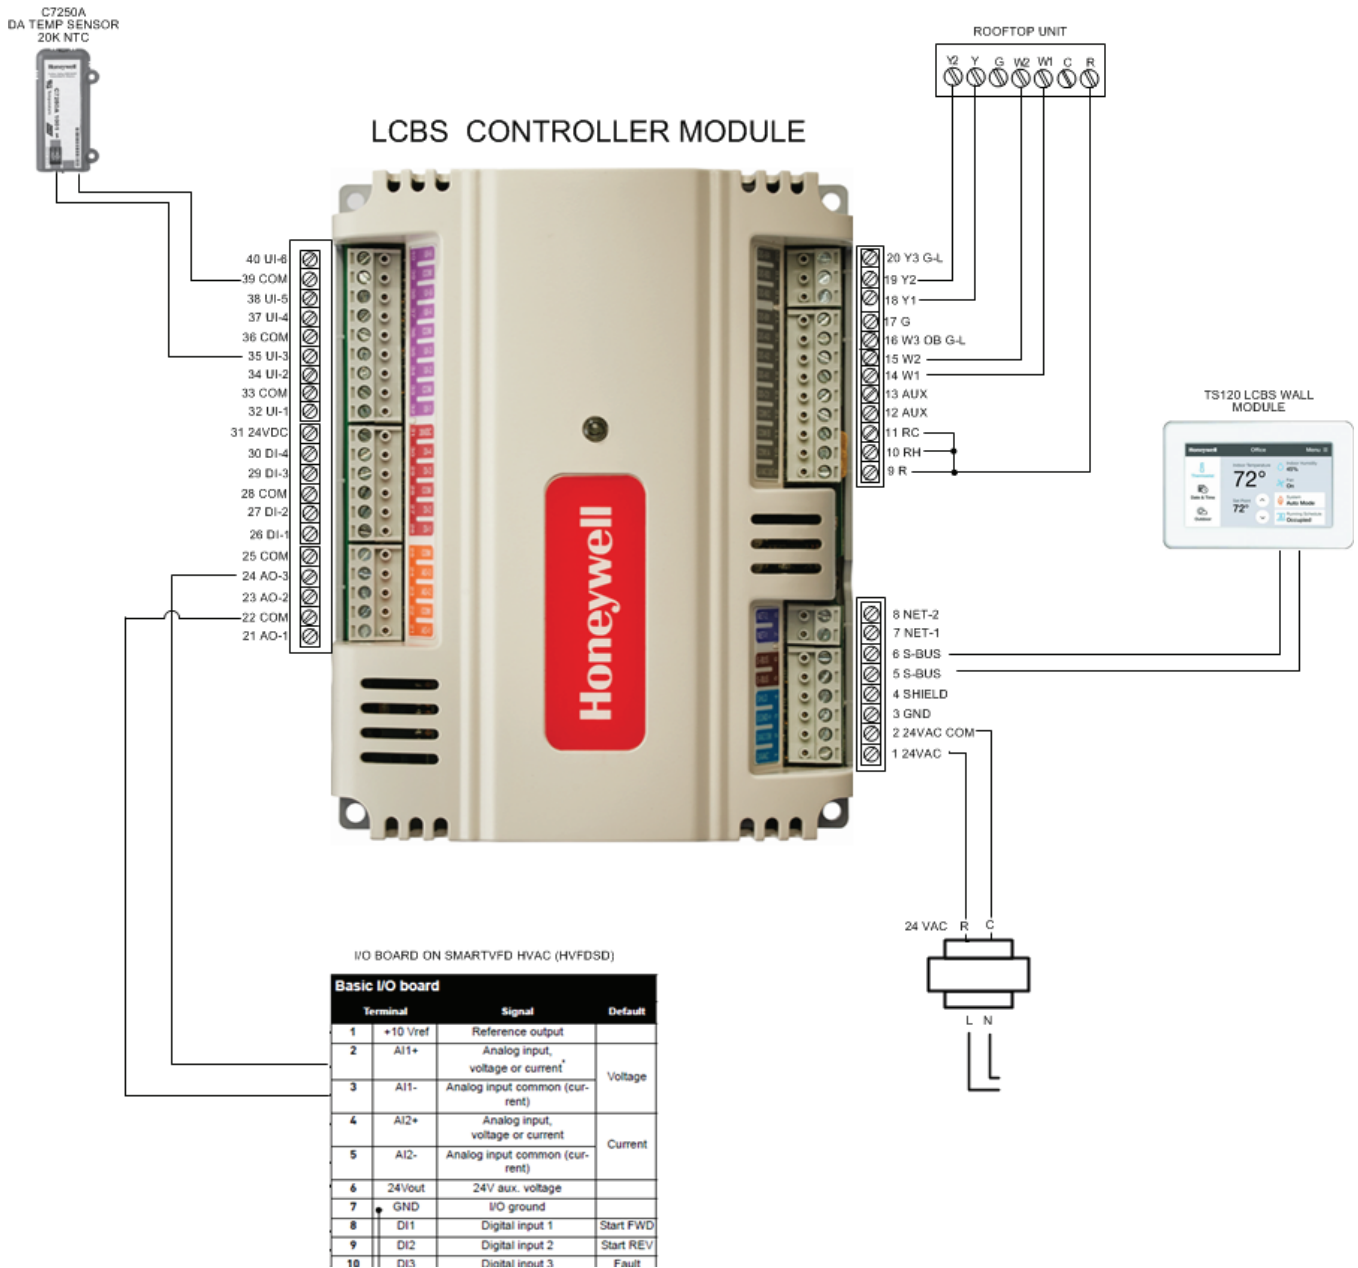
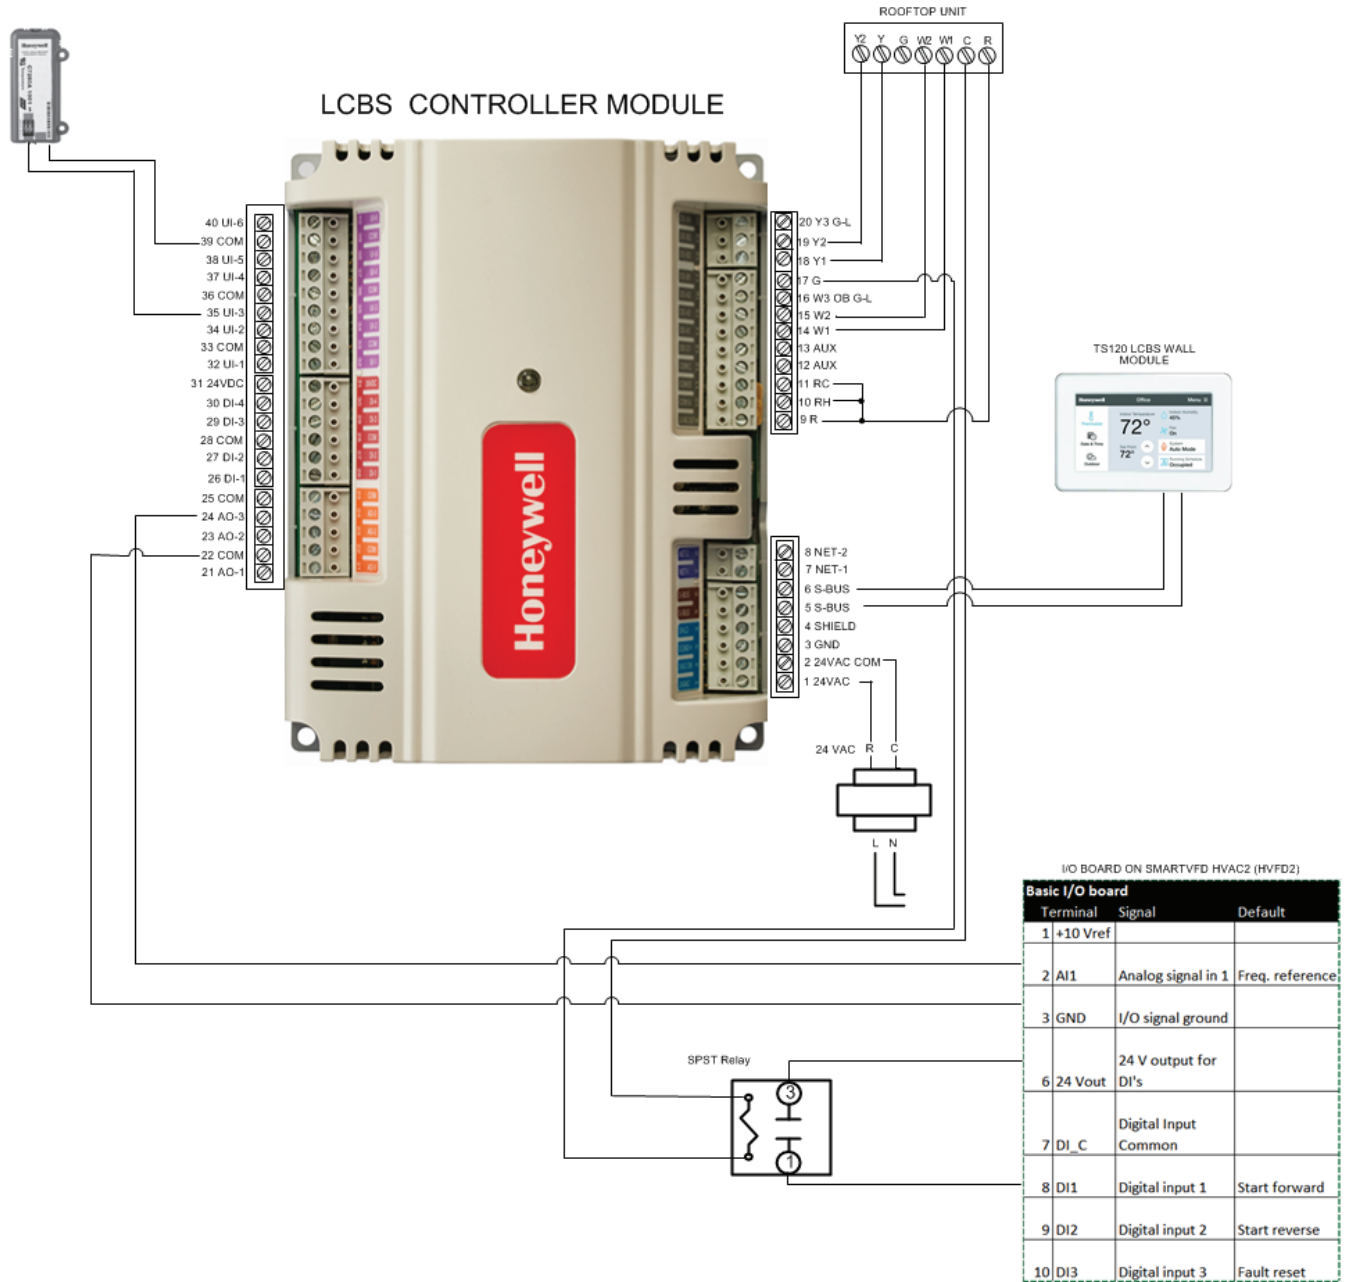

Fig. 2. LCBS with SmartVDF HVAC for Multi-Speed Fan Control (option 2)
Fig. 3. LCBS with SmartVFD HVAC2 for Multi-Speed Fan Control (option 2)
- a. Wire the VFD to the LCBS controller. For the HVAC, refer to Fig. 2. For the HVAC2, refer to Fig. 3.